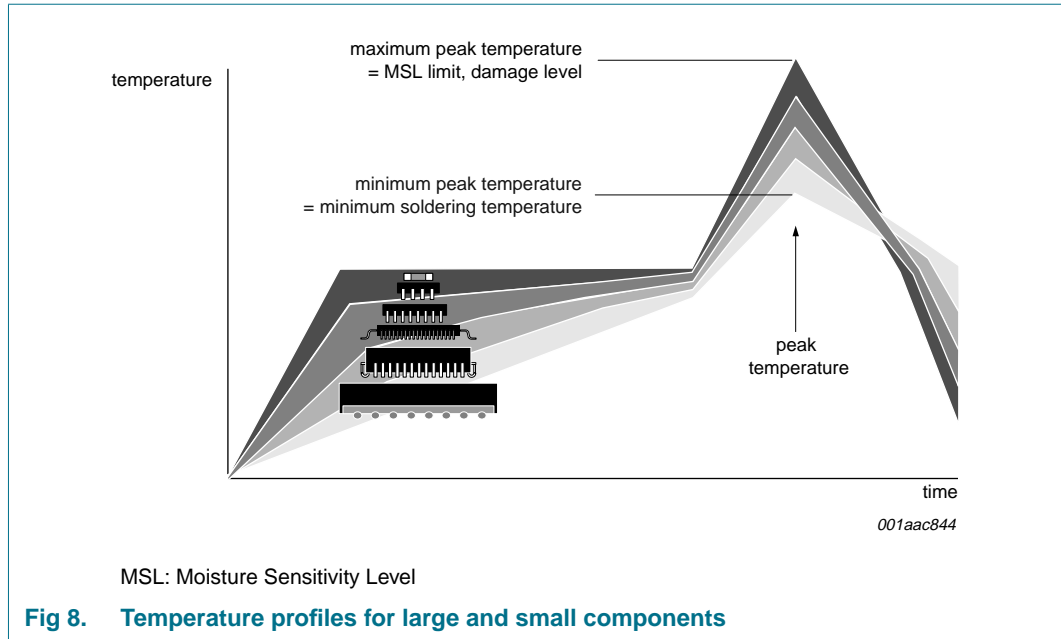

Fig 8. Temperature profiles for large and small components
- Lead-free versus SnPb soldering; note that a lead-free reflow process usually leads to higher minimum peak temperatures (see Figure 8) than a PbSn process, thus reducing the process window
Studies have shown that small packages reach higher temperatures during reflow soldering, see Figure 8.